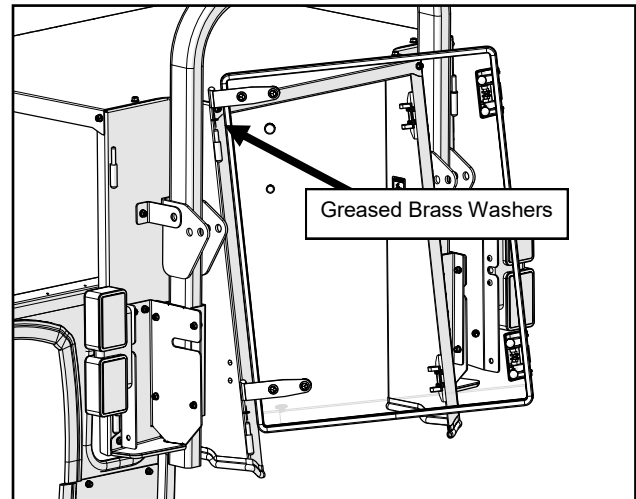

Fig. 11.2 (Install Rear Window, CA cab only)
**11.2** Hang the rear window. See Figure 11.2.